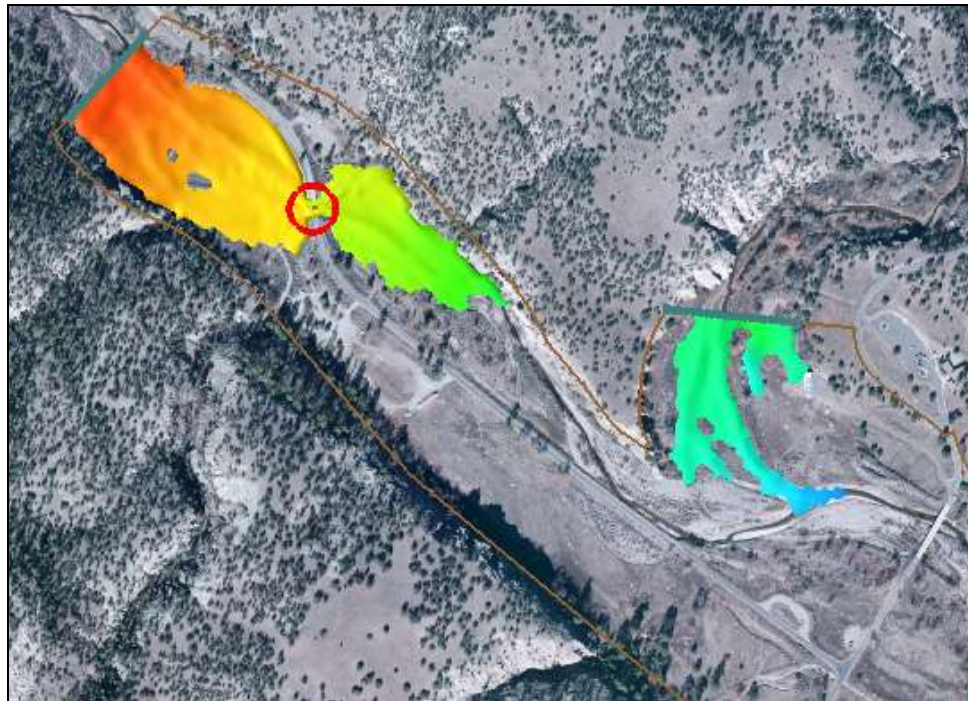

Figure 2 Bridge pressure flow location
The pressure flow structure will be created at the bridge location just upstream of the confluence (location displayed in Figure 2). Pressure flow structures are defined by creating an arc at the upstream side of the bridge deck and an arc at the downstream side of the bridge deck representing the upstream and downstream extents of the bridge. The arc type for these arcs is defined as “Pressure” and attributes are assigned to them such as low chord elevations, a Manning’s n value, and overtopping parameters.
1. Use the **Zoom**  tool to zoom into the bridge location (Figure 2).